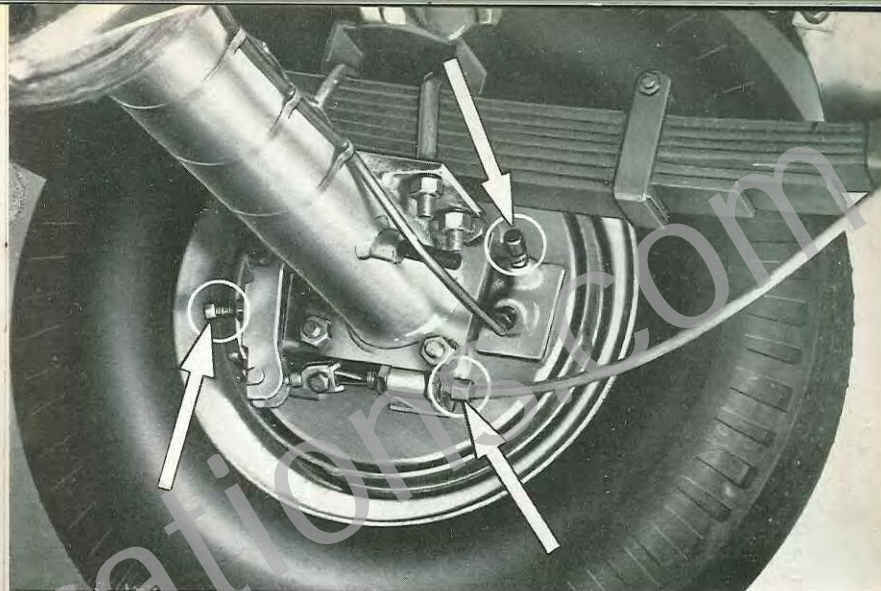

Fig. 10
- **Hand controlled brake:** by means of the adjusters on cables (See fig. 10).
- **Hydraulic Pedal Control:** by means of the shoe adjusters (See fig. 10).
Unscrew the air bleed screw (fig. 10) and detach caps; actuate rear brake pedal until from bleed screw only oil without water or air flows out.